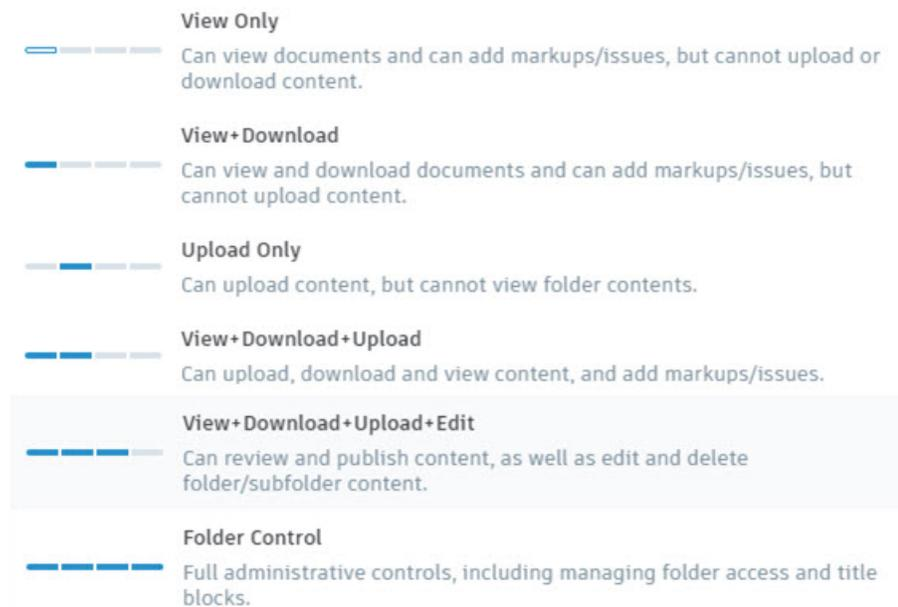

FIGURE 2
- Setup Document Management folder structure, add members and assign permissions, shown in Figure 2.